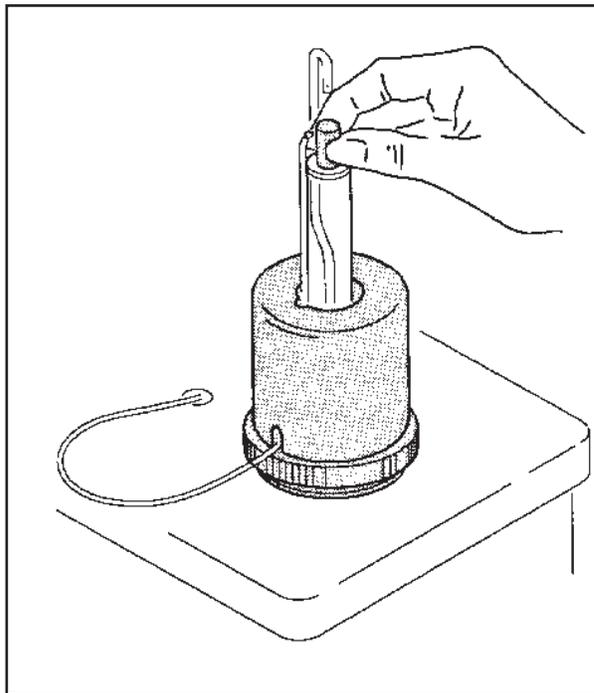

Figure 3.1
5. Place the sample on the stage under the probe tip (see Figure 3.1).